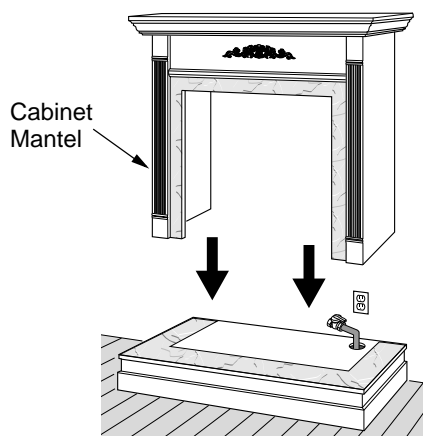

Figure 14 - Installing Cabinet Mantel
2. If using an optional GA3750 blower, install a properly grounded, 120 volt three-prong electrical outlet at firebox location if an outlet is not there. If possible, locate outlet so cabinet mantel will cover it when installed (see Figure 14).
6. Center cabinet mantel on hearth base (see Figure 14). Make sure mantel is flush against wall.